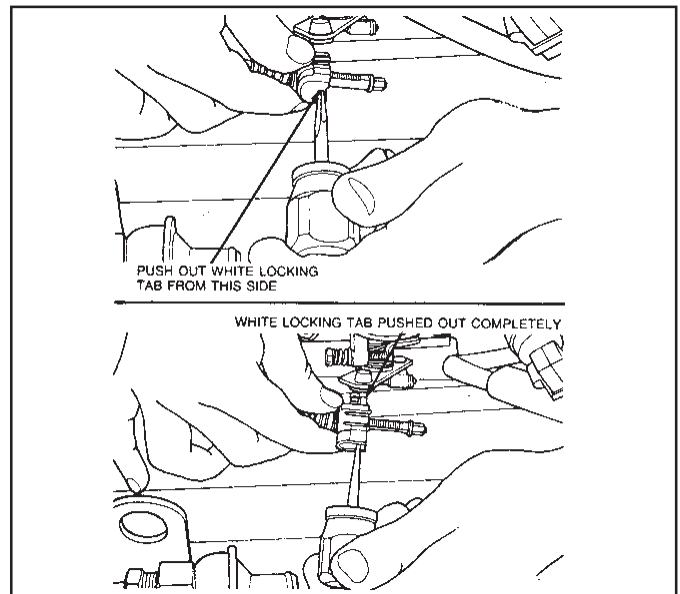

Figure 21
6.4 Check to ensure plastic block with pin and tab slides freely on notched rod. If it does not slide freely, the white tab may not be pushed out far enough. (See Figs. 21 & 22.)